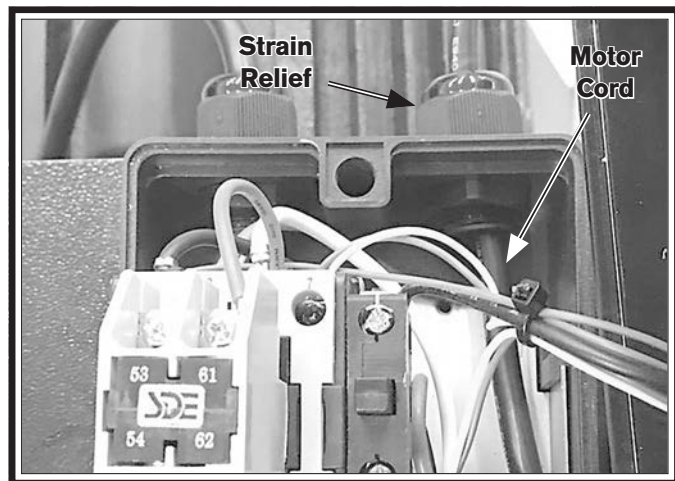

Figure 76. Filter brush motor cord routed into switch box.
- Push filter brush motor power cord through cord routing cover and through strain relief at top of switch box (see **Figure 76**).